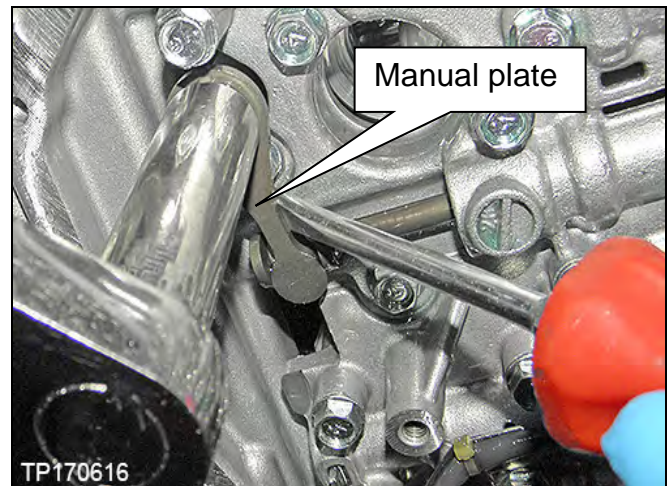

Figure 7B
- Use a screwdriver to hold the manual plate (Figure 7B) to keep the shaft from rotating while removing the nut.